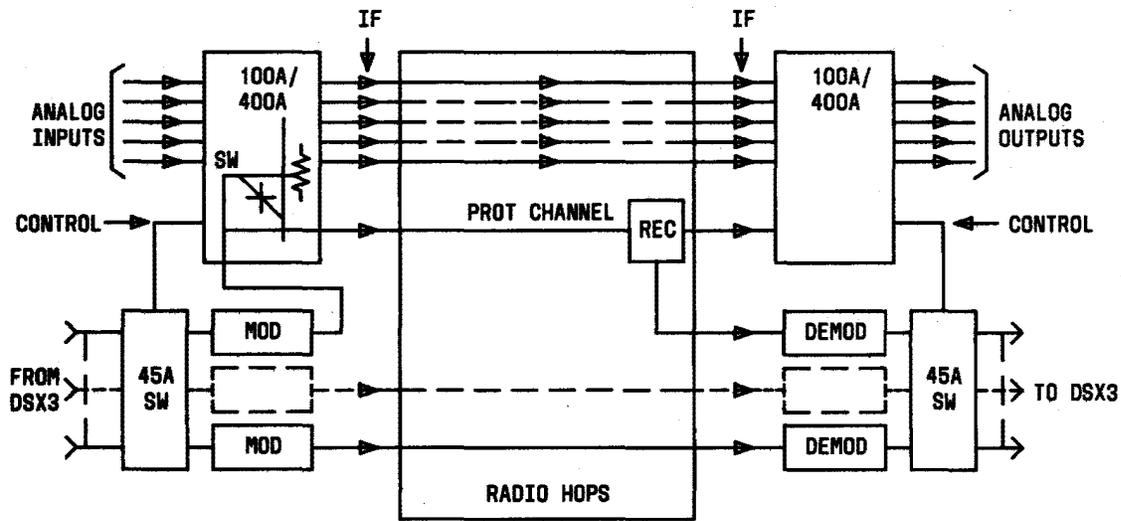

Fig. 1 — TD-45A System Block Diagram
2.01 The TD-45A Digital Radio System provides 45-Mb/s digital transmission capability over a radio switching section using digitally-conditioned TD-2 or TD-3D radio hops without individual repeater regeneration. A block diagram of the TD-45A system using the switching section as the basic building block is shown in Fig. 1. Terminal equipment at the switching section stations includes the 45-Mb/s digital MODEM, the 45A LTS, and a 100A or 400A Protection Switching System modified for the TD-45A system.